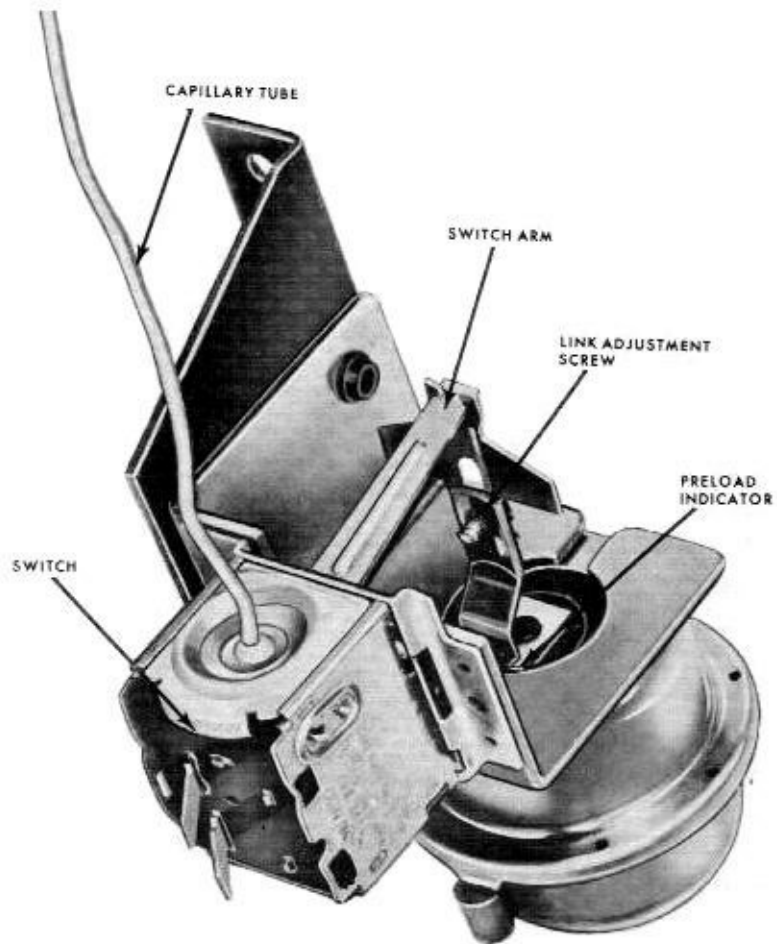

Fig. 3-30—Thermostatic Switch Adjustment—(61LM-7807)
2. Loosen the link adjustment screw. (See Figure 3-30.)